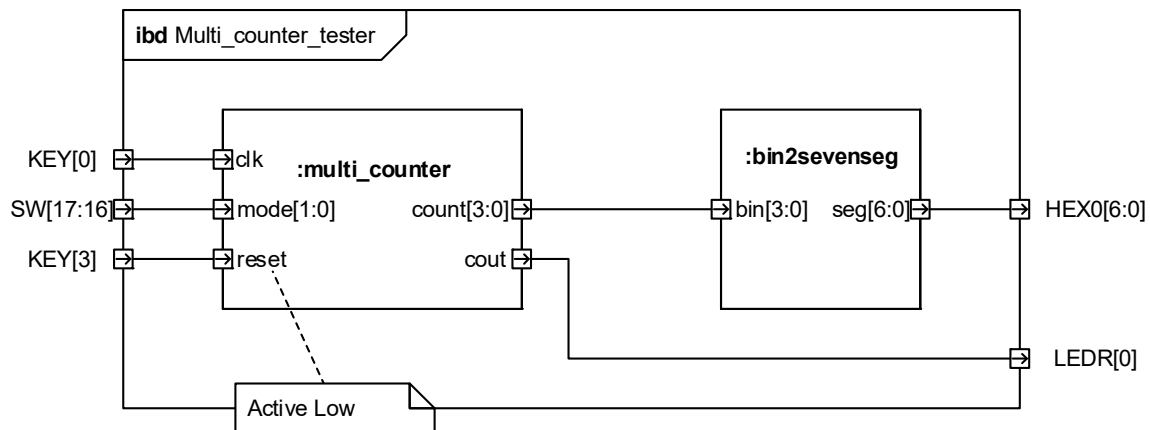

Fig. 1: Multi counter.
- a) Design a binary circular counter (returns to zero after reaching maximum value) that increments on every positive edge of the clock, see figure 1 Display the current counter value on the 7-segment display. Use the 7-segment decoder component from former exercises.